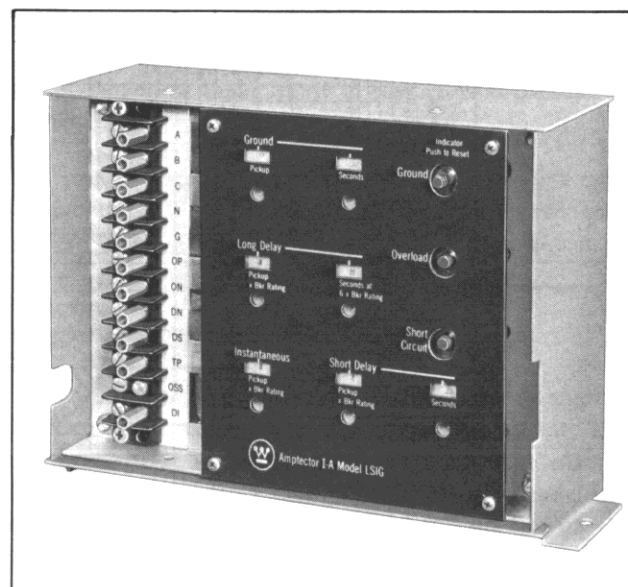

Fig. 2 Amprector IA
There are a maximum of seven (7) adjustable controls on the Amprector IA, each can be adjusted with a screwdriver through openings in the front face plate, Fig. 2.